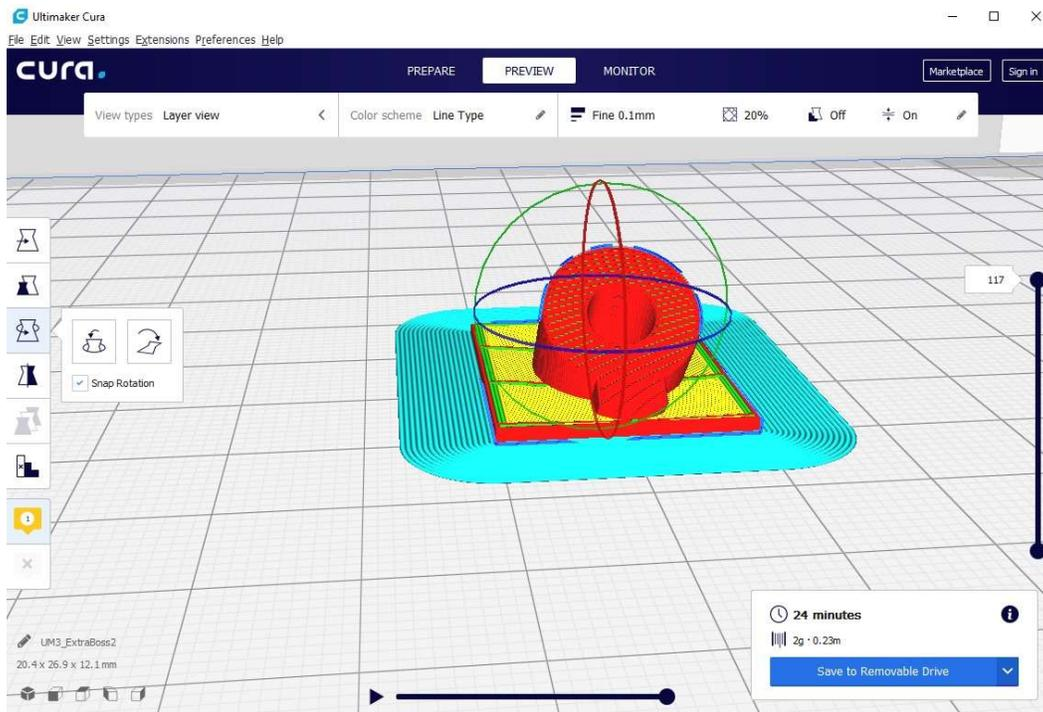

Figure 3
3.2.1 Preview the part by clicking on “Preview” in the top center of the screen (Figure 3).